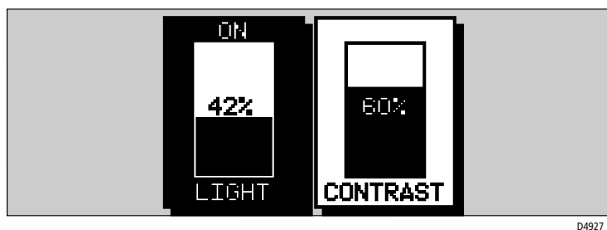

Figure 2-3: Lighting Controls
1. Press the **POWER** key to display the lighting controls (*Figure 2-3*).